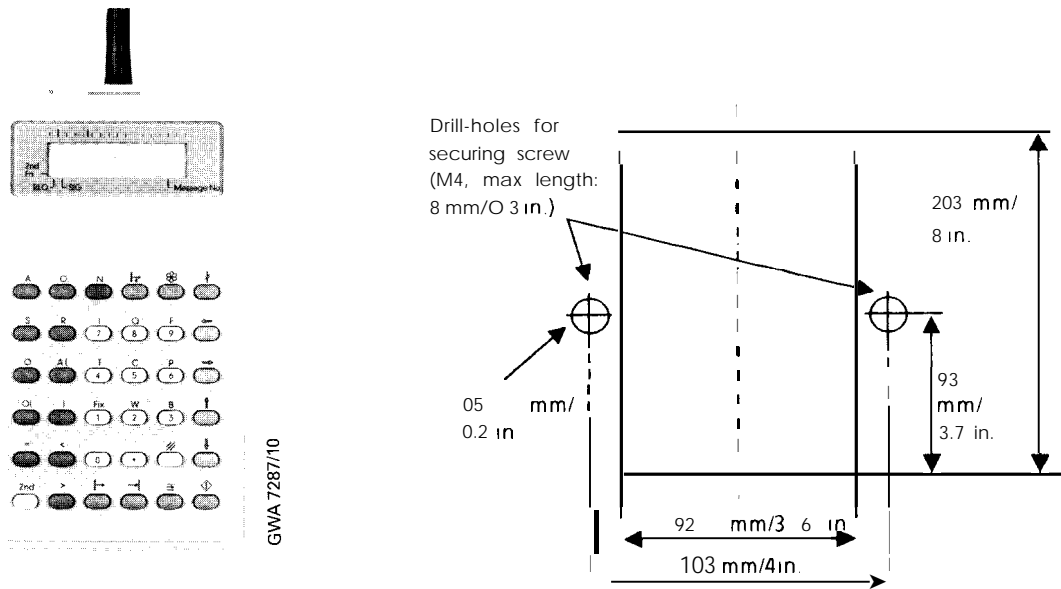

Figure 3-3. Cutout Dimensions for Mounting in a Control Panel
- Mounting in a control panel ( → Figure 3-3. )